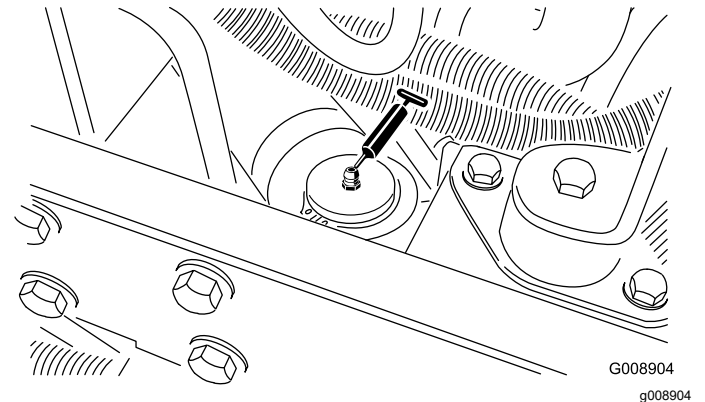

Figure 42
- Steering cylinder (Figure 42).